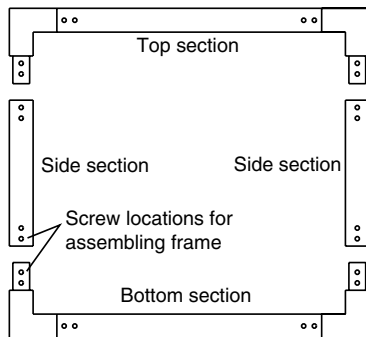

Figure 1
- ① Read instructions through completely before proceeding.
- ② Follow instructions carefully. Installation contrary to instructions invalidates warranty.
- ③ Screen should be accessible for complete removal should fabric become damaged or should other service be required.
- ④ Screen should be installed level (using a carpenter's level).
- ⑤ Nothing should be fastened to screen frame or viewing surface.
- ⑥ Tools required: Medium (#2) Phillips Screwdriver, Carpenters Level, and Measuring Tape.
- ⑦ Open carton along the length, not at ends.
- ⑧ The ideal temperature range for assembling folding screens to prevent damaging the surface is 68°-78° F (20°-26° C). Assembling below recommended temperatures may damage surface and void warranty.
- ① Remove all pieces from the carton.
- ② Lay out the sections of the frame by matching up the numbers located on the back of the frame sections. Snaps should be facing up. Slide the ends of the castings from the top section into the side frame sections. Fasten these together using the 1/4"-20 machine screws provided. Repeat this for bottom section of frame (see Fig. 1).